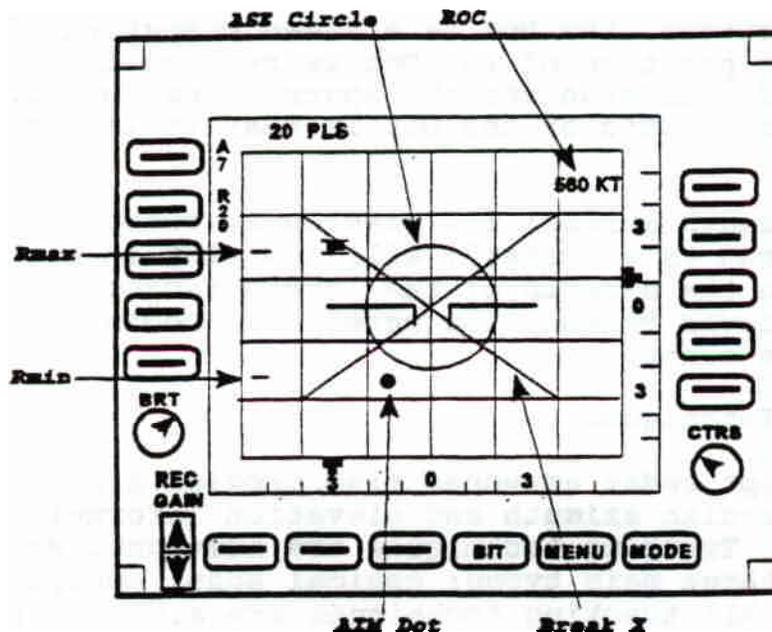

Figure 10
**PLS Track (with Missiles) mode:** this mode is established when the operator selects the MSL softkey. Successive depression on the softkey cycles from AIM-7 Sparrow (A7), AIM-9 Sidewinder (A9), AIM-54 Phoenix (A54), and back to MSL. The scope also displays other information of importance when employing weapons (see Figure 10 on the next page):